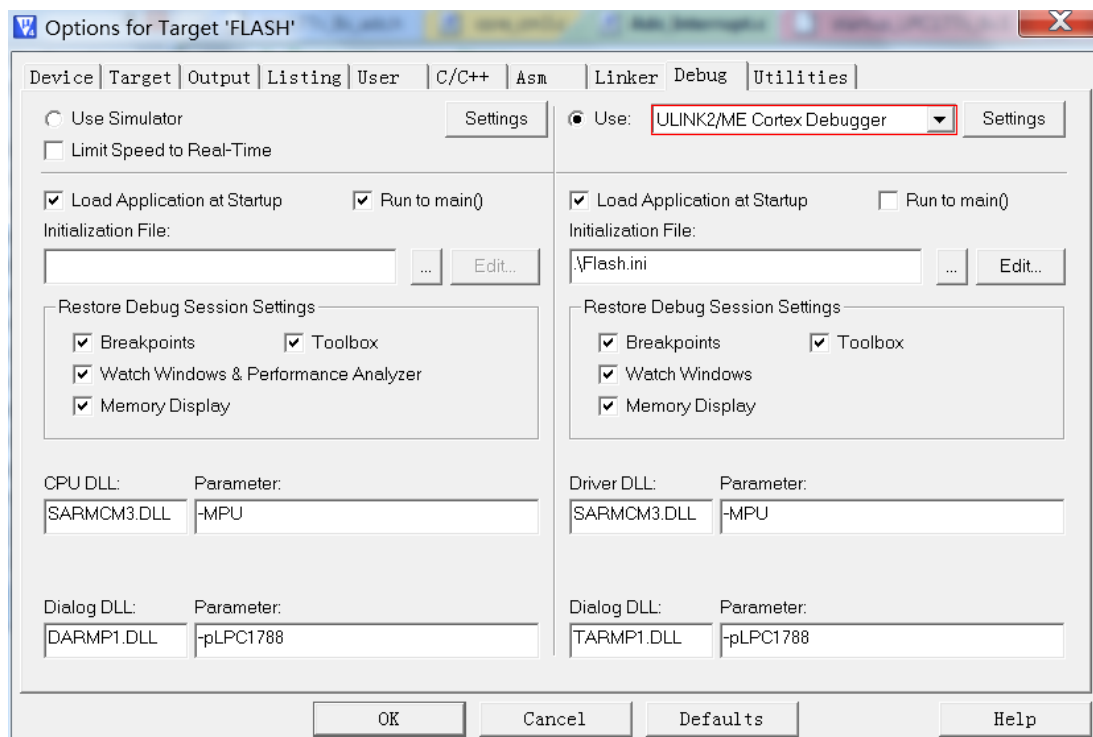
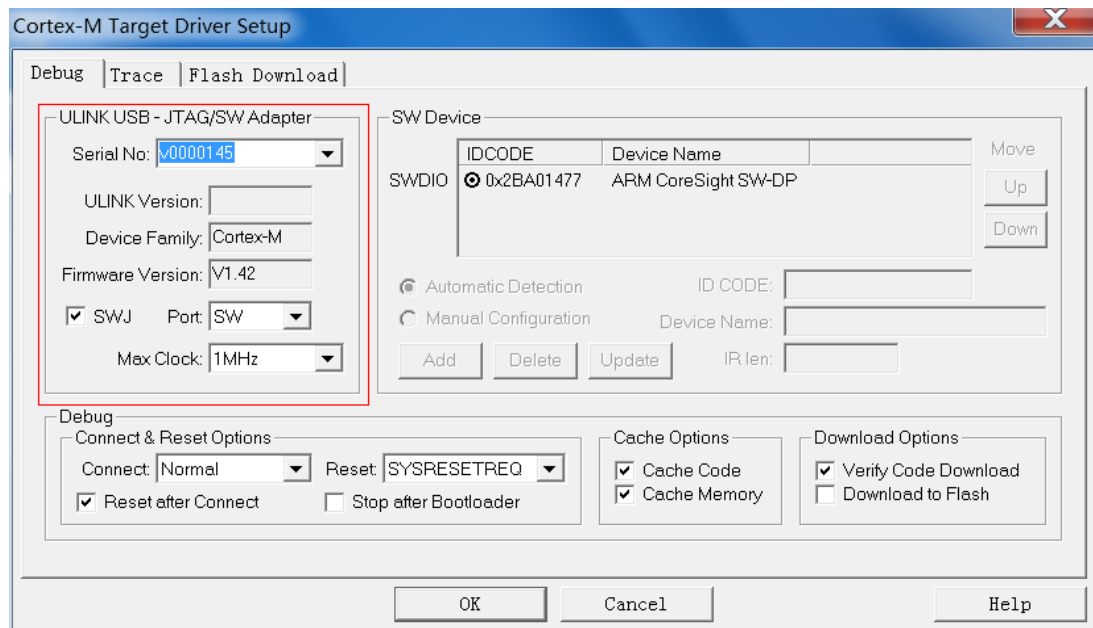

Figure 3-6
Figure 3-7
(1) After opening project, open setting dialog box and select Debug. Refer to figure 3-6:
(3) Clicking Setting in figure 3-6, there will be connection status of ULink2 (choose SYSRESETREQ in Reset) and development board, as well askernel identification. Refer to figure 3-7: